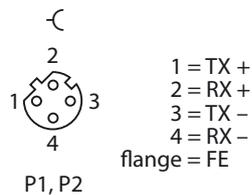

Fig. 10: Ethernet connection
- Connect the device according to **Fig. 10: Ethernet connection.**